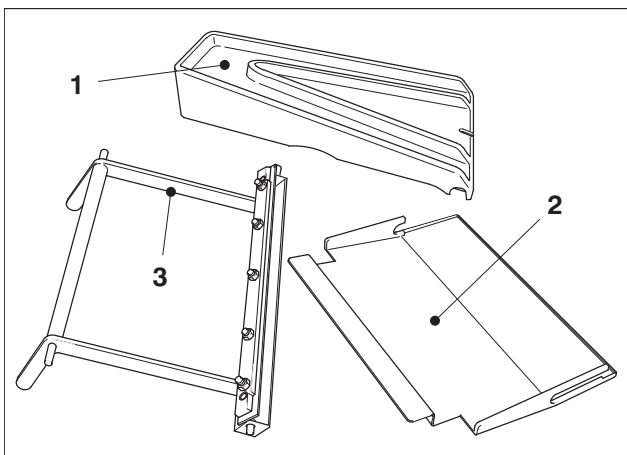

Fig. 88 Numbering inking unit washup device
- the feed line for the washing fluid (Fig. 88/1) for cleaning the numbering inking unit inside the press,
- the drip pan (Fig. 88/2) under the numbering inking unit and
- the washup blade (Fig. 88/3).